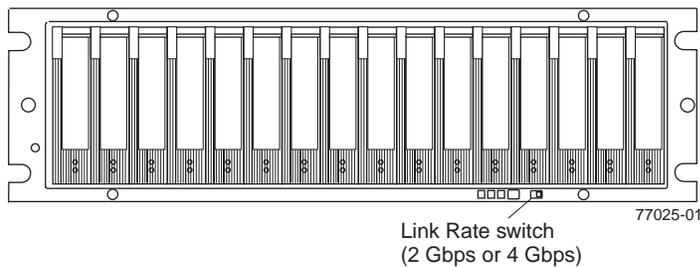

Figure 76. Link rate switch
A Link Rate switch is located on the front of the storage subsystem as shown in Figure 76 on page 122. The Link Rate indicator LEDs are located on the back of the storage subsystem. The Link Rate switch enables you to select the data transfer rate between the controllers and the drives to either 2 Gbps or 4 Gbps. The Link Rate switch is only read when the storage subsystem is powered up.
4. Locate the Link Rate switch. Figure 76 shows the location of the Link Rate indicator light on the front of the command module.